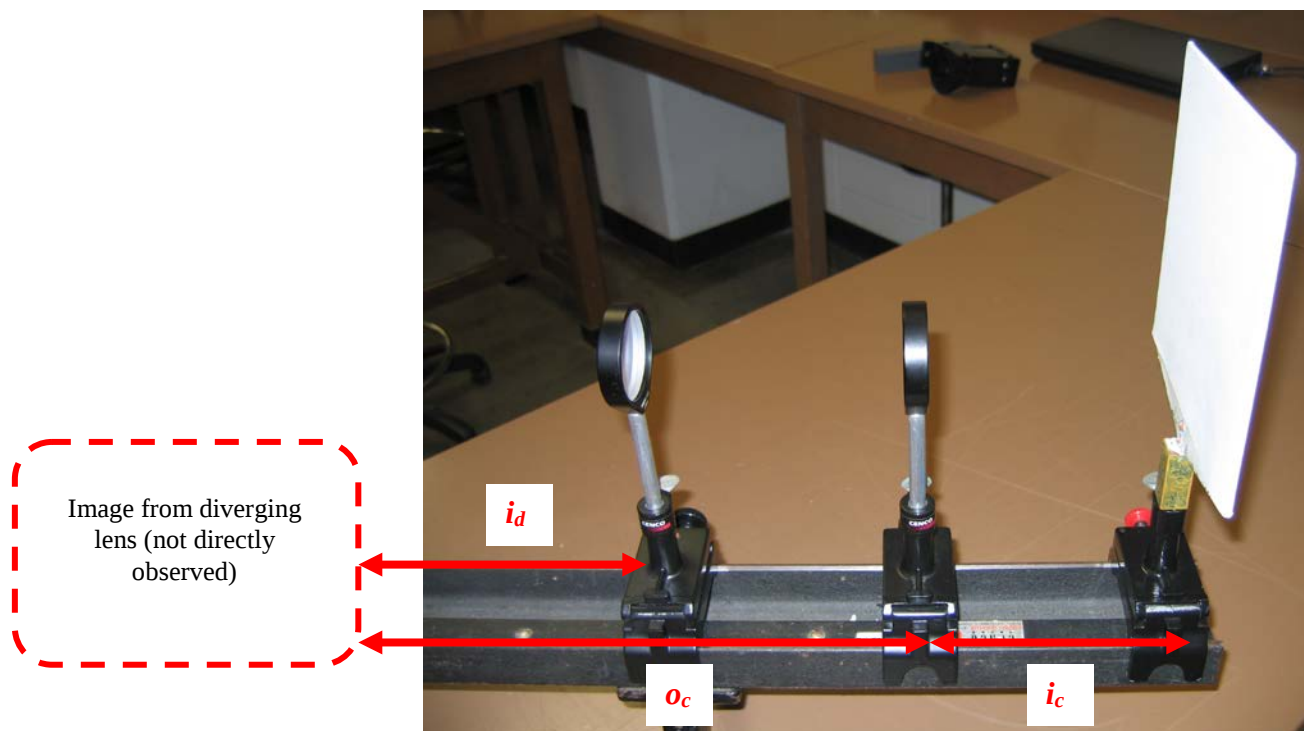

Figure 13.13: Setup for measuring the focal length of a diverging lens by viewing a distant object.
In the following, o_d refers to the object of the diverging lens, i_d refers to the image of the diverging lens, o_c refers to the object of the converging lens, and i_c refers to the image for the converging lens. Set up the optical bench similarly to Figure 13.13 (See below). " i_c " must be greater than the focal length of the converging lens.
- Although you cannot directly observe the image from the diverging lens, you can still determine i_d . The important thing to notice here is that the image from the diverging lens is being used as the object for the converging lens. This means that $|i_d| = |o_c| - (\text{distance between lenses})$. See Figure 13.13.